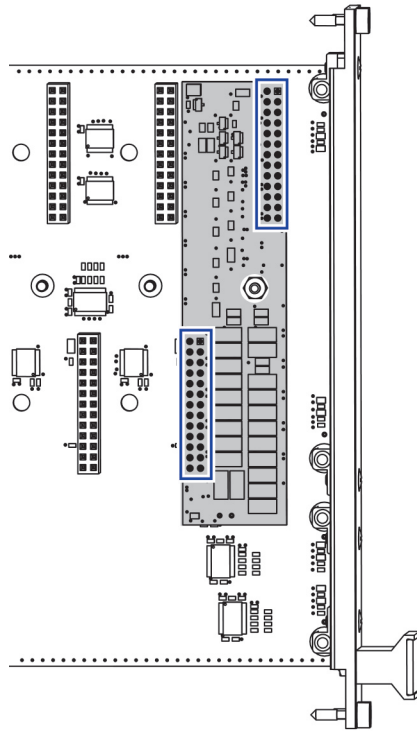

Fig. 2-3 Front View of an Assembled PB5385RES.1-A Resistor Cascade Piggyback
3. The Resistor Cascade Module can be mounted with slight pressure. This is only possible if the connector is correctly aligned (blue rectangle in Fig. 2-3). This prevents incorrect installation.